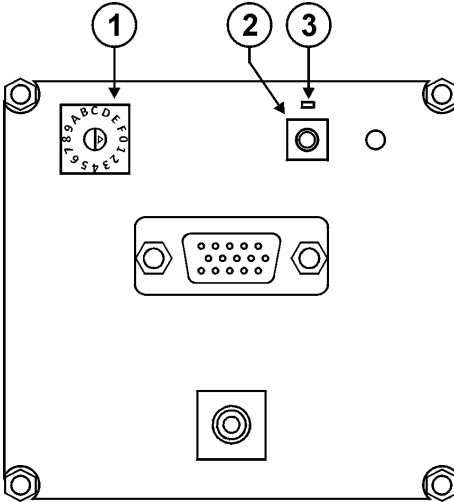

Figure 8: WP-121 PCB Assembly Front View with Face Plate Removed
3. Ensure that the rotary switch (see Figure 8) is in position 0. If it is not, use a small screwdriver to turn it to 0.
5. Press the EDID capture button (see Figure 8).
2. Using a small screwdriver, turn the rotary switch (see Figure 8) to the required position as defined in the table below.
4. Press the EDID CAPTURE button (see Figure 8).